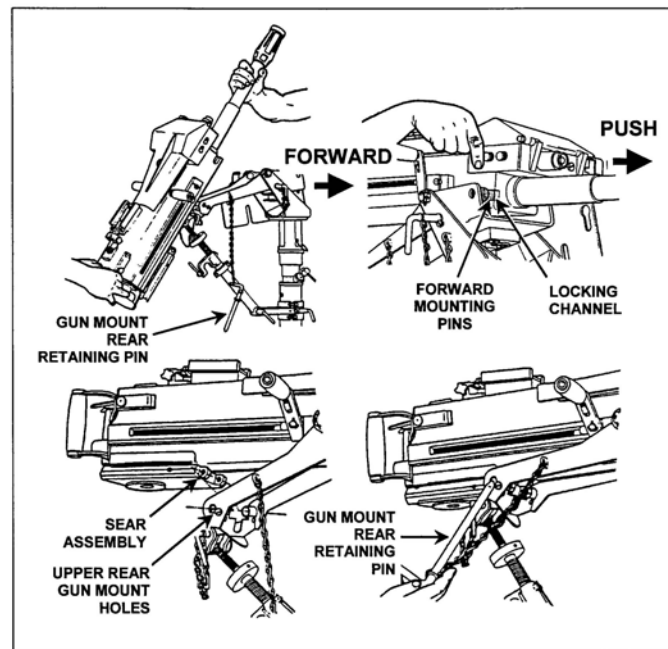

Figure 9. Install the MK19 Machine Gun
6. Install the MK19 machine gun (Figure 9).